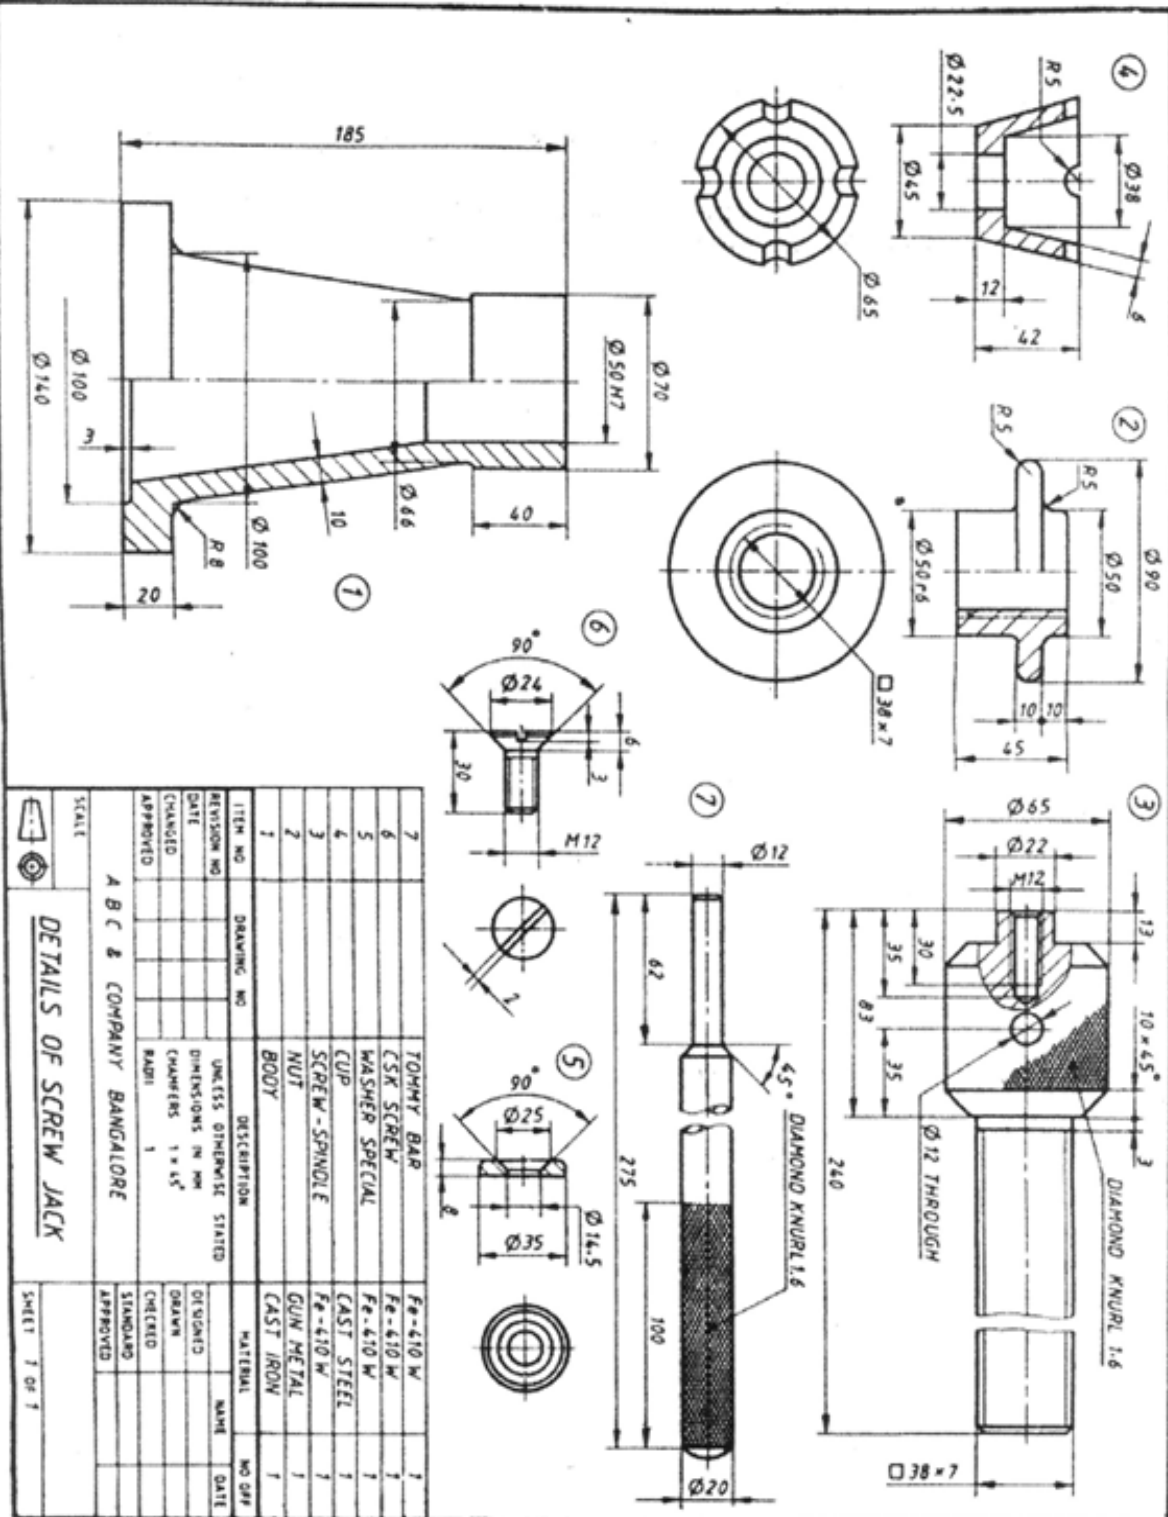

Figure 1 'SCREW JACK
5. Details of 'SCREW JACK' are shown in following Figure 1. Assemble the parts and draw the following views of the assembly.